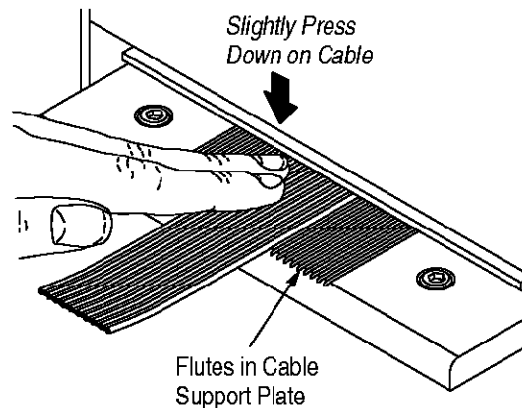

Figure 4
3. Slightly press down on the cable (to keep the cable aligned with the flutes in the plate), and slide the cable into the notcher until it butts against the cable stop plate. Refer to Figure 4.
3. Slightly press down on the cable (to keep the cable aligned with the flutes in the plate), and slide the cable into the notcher until desired length. Refer to Figure 4.